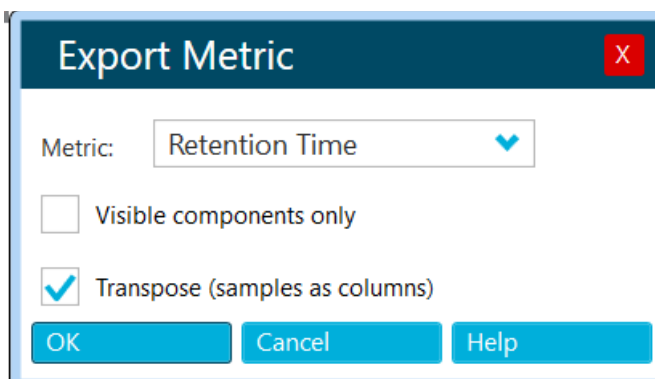

Figure 9.2. Exporting the Results from SCIEX OS software for use in sMRM Pro Builder.
7. Process the data in SCIEX OS software (Section 8), then export the results for analysis in the sMRM Pro Builder. Select Reporting → Export Results → Results Table – Metric, then export the Area, Retention Time, Width at 50% as shown in **Figure 9.2**.